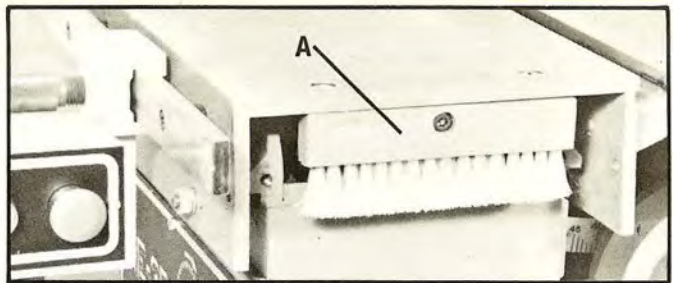

Fig. 16
1. Assemble wiper (A) Fig. 16, to the end of the sliding table. Assemble remaining wiper (not shown) to the opposite end of the sliding table.